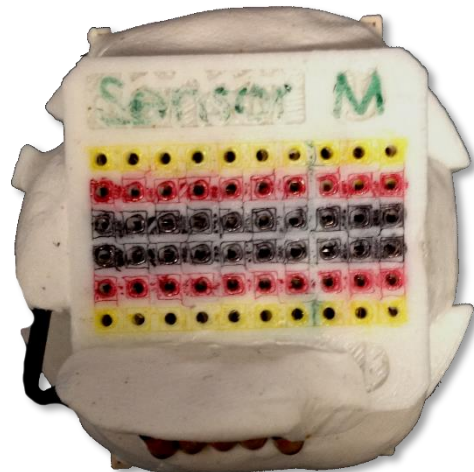

Figure 27: Finished breadboard hub
11. Cover and protect all connections using Sugru or similar methods. See finished breadboard hub in Figure 27.